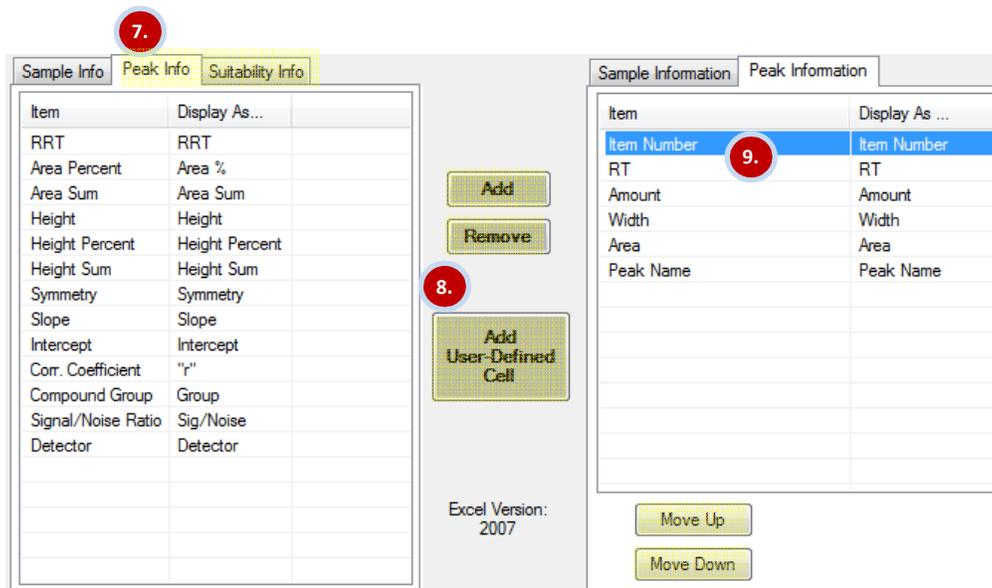
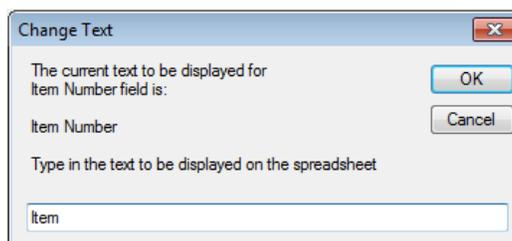

Figure 3.4 Template Setup Wizard continued
Figure 3.5 Renaming Sample and Peak Information
7. Choose the Peak Info tab (see #7 Figure 3.4) and make choices from the left by clicking the choice and clicking Add (or double-clicking the item). Choices will then appear on the right. Items in the Sample Information and Peak Information sections will be placed onto the report template in the order they were selected. The order of Items may be changed by selecting the item and choosing Move Up or Move Down. If an item is no longer desired, click on the item on the right and then click Remove. Items chosen from Peak/Suitability Info sections will appear in the Peak Information Table of the Single-Sample report. Select only the peak items and peak performance (suitability) items that are necessary. See note.
8. (optional) Clicking Add User-Defined Cell (enabled only when the Peak Info or Suitability Info tabs are selected) will place a cell onto the spreadsheet that can then be "programmed" to any mathematical function that Microsoft Excel supports (after the Excel spreadsheet appears on the screen). (see #8 Figure 3.4)
9. Selecting then right clicking on any item name in Sample Information or Peak Information in the right column will allow you to change the text that appears on the report. (See #9 in Figure 3.4 and Figure 3.5)